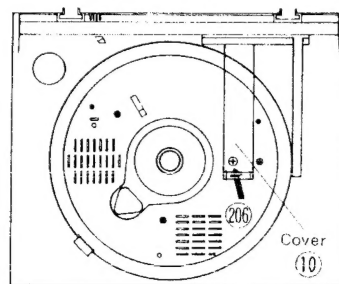
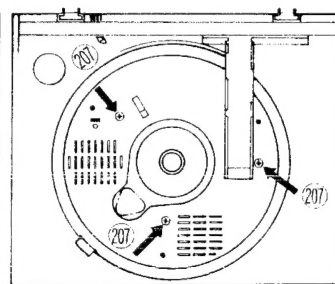

Figure 3
Figure 4
- 1-5. Remove the screw (206) which mounts the Cover (10) to the Case top (1).
- 1-6. Remove the Cover (10) from the case top by drawing it (Fig. 3).
- 1-7. Press the POWER button so that the power will be switched on and remove the tonearm to the position where the Cover (10) was mounted, pressing the PLAY button.
- 1-9. Remove the three Screws (207) which mount the case top (Fig. 4) and lift the case top.
- 1-5. カバー(10)をキャビネット(1)に取り付けているスクリュー(206)をとる。(図3)
- 1-9. キャビネットをとめているビス(207) 3本をとりキャビネットを引き上げる。(図4)